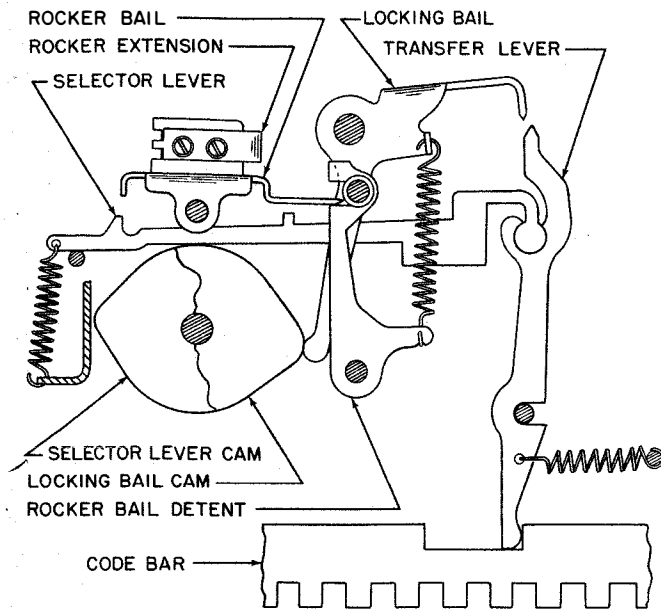
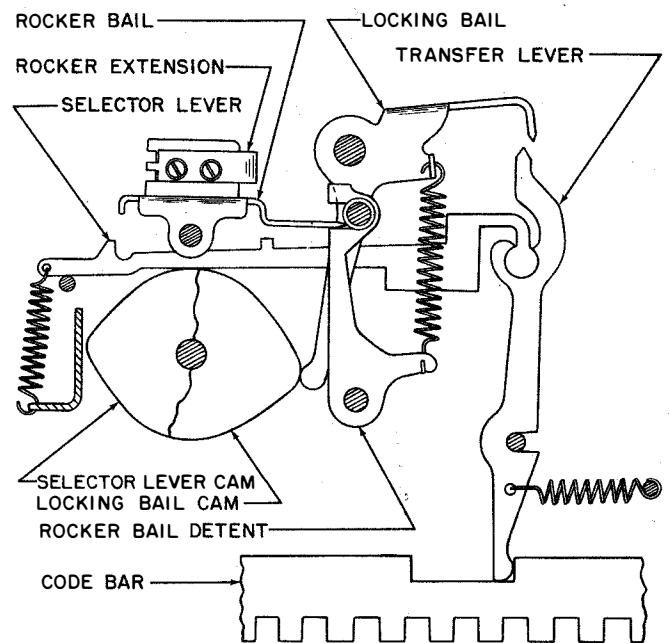
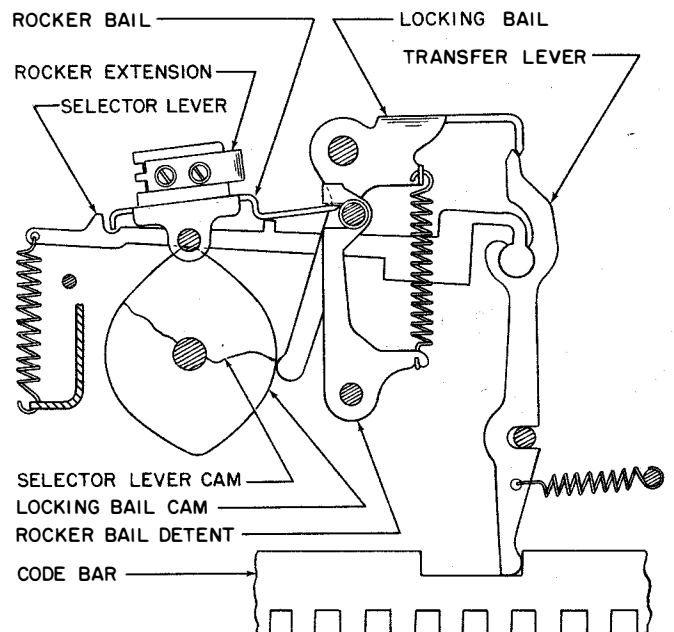

Figure 2-13. Signal Generator Mechanism, Front View
Figure 2-14. Signal Generator Mechanism, Front View
Figure 2-15. Signal Generator Mechanism, Front View
*d. SIGNAL GENERATOR MECHANISM.*—The signal generator mechanism is located on the top front part of the keyboard chassis. As was shown in paragraph 3.c., each of the five code bars operates its own transfer lever (figure 2-13). In addition to these five transfer levers, there are two others which are not associated with code bars and which are used to originate the start and stop pulses. The start pulse transfer lever (seventh from the rear and located next to the fifth pulse transfer lever) is permanently positioned so that
its upper end, and its associated selector lever are toward the left or selected position. The stop pulse transfer lever (third from rear and located between the second and third pulse transfer levers) is permanently positioned so that its upper end, and its associated selector lever are to the right or unselected position. When a code bar is unselected, the upper end of its transfer lever and its associated selector lever are positioned toward the right (figure 2-13). When a code bar is selected, the upper end of its transfer lever and its associated selector lever are positioned toward the left (figure 2-14). After the code bars have positioned their transfer levers and selector levers, the locking bail which is operated by a cam on the keyboard cam-clutch assembly drops downward between the lock projections on the upper ends of the transfer levers (figure 2-15). When the selected code bars are reset by the code bar bail, the upper ends of their transfer levers are held toward the left by the locking bail. The slotted bearings at their pivot points permit the transfer levers to shift to the left without disturbing the selection set up on the selector levers. Each of the seven selector levers is associated with a cam on the cam-clutch assembly. These cams push the levers upward briefly in the order: start, 1, 2, 3, 4, 5, and stop. A rocker bail is located above the selector levers and is actuated by them. A rocker bail detent holds the bail in either of the two positions it can assume. When a selector lever which is in the unselected position (toward the right) is pushed upward by its cam, it rotates the rocker bail clockwise (figure 2-13). When a selector lever which is in the selected position (toward the left) is pushed upward by its cam, it rotates the rocker bail counterclockwise (figure 2-15).